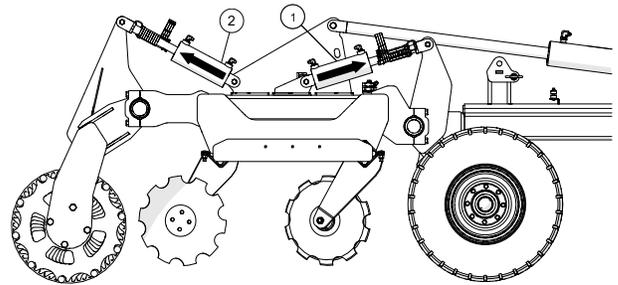

Figure 12. Raising Machine
2. Extend the wheel cylinders (#1) and the basket cylinders (#2) to lift machine off the ground. This places machine into lowest transport position. See **Figure 12**.